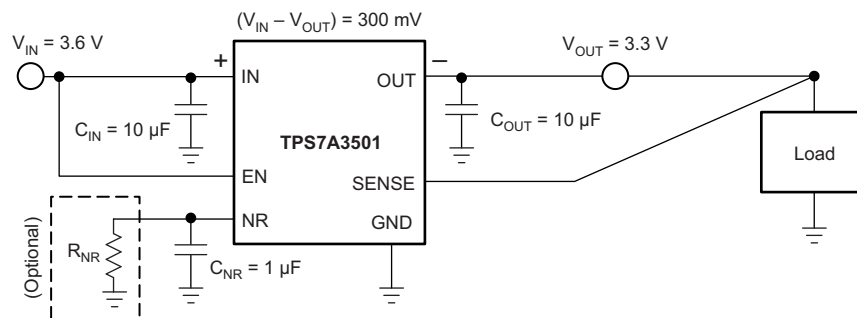

Figure 1. TPS7A3501 Typical Application Circuit
- (1) $R_{NR_INTERNAL}$ refers to the internal resistor used to set ($V_{IN} - V_{OUT}$) for the device when no external R_{NR} is used. See the Application Information section and Figure 1 for details.
- (2) $I_{NR_INTERNAL}$ refers to the internal current source used to set ($V_{IN} - V_{OUT}$) for the device when no external R_{NR} is used. See the Application Information section and Figure 1 for details.